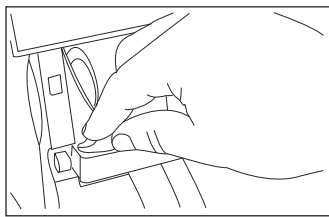

Figure 6
3. Pull out enough bag material to hold item being vacuum packed, plus 4 inches (10.16 centimeters). Lower the Cutter Bar and slide Bag Cutter (H) across the Cutter Bar. (See Figure 6)
4. Using two hands, insert open end of bag into Vacuum Channel and press Stop/Seal Button (C). Red Seal light will illuminate. Bag must be centered between arrows.
5. When Red Seal light (10) turns off, sealing is complete. You may remove bag from the Vacuum Channel (E).